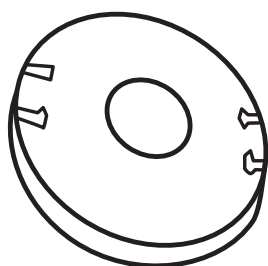

Fig. 29
5. Follow the direction which marked on the wheel to wrap (Fig. 29).